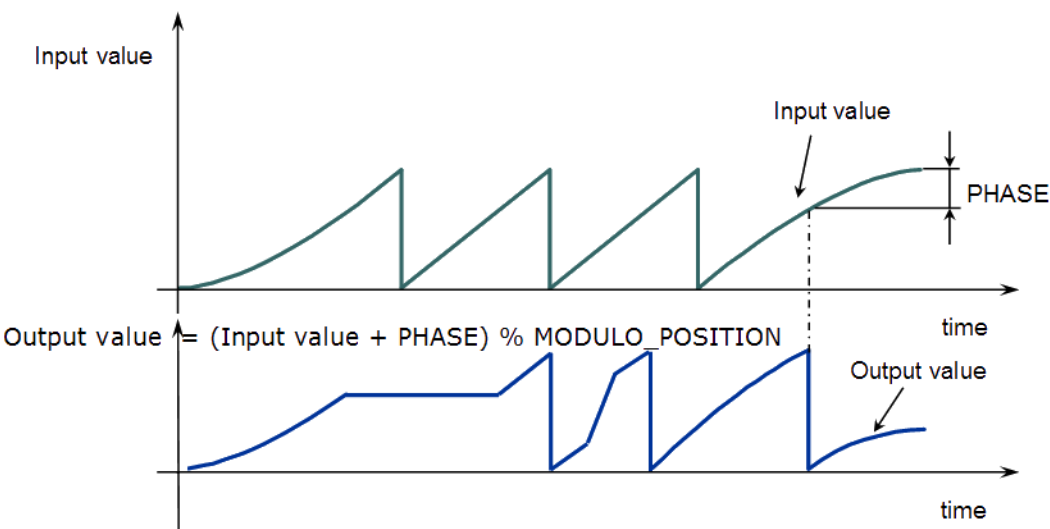

Figure 4-55: Changed Slope value
- This is applied when the Phase value is changed. (Figure 4-55)